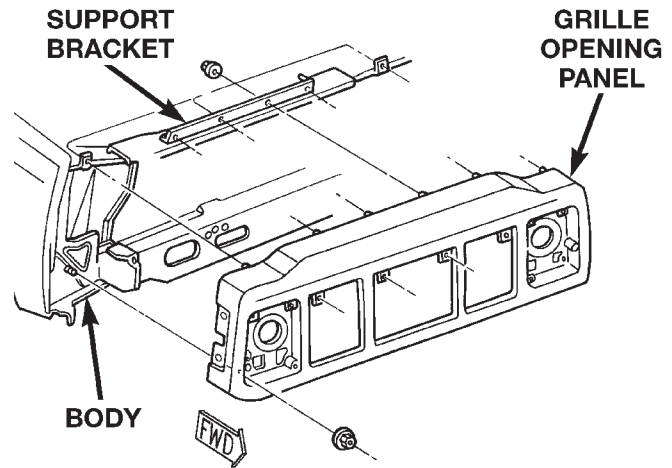

Fig. 2 Grille Opening Panel
- (1) Remove headlamp bezels.
- (2) Remove grille.
- (3) Remove side marker lamps.
- (4) Remove headlamps and park/turn signal lamps.
- (5) Open hood.
- (6) Remove nuts that attach GOP to front fenders (Fig. 2).
- (7) Remove nuts attaching GOP to support bracket.
- (8) Pull GOP forward and disconnect harness clips and front lamp harness connectors.
- (9) Remove GOP from vehicle.